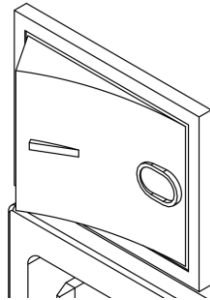

Figure 4-12 Control cabinet power switch
- Step5. After powering on, switch the switch from "0" to "I" (refer to Figure 4-12), start the control cabinet, at the same time the switch indicator lights up, and the teach pendant starts.